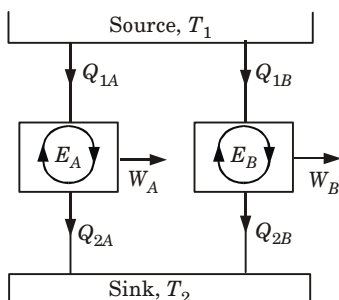

Fig. 2.14.1. The cyclic heat engines E_A and E_B operating between the same source and sink of which E_B is reversible.
2. Let two heat engines E_A and E_B operate between the given source at temperature T_1 and given sink at temperature T_2 as shown in Fig. 2.14.1.